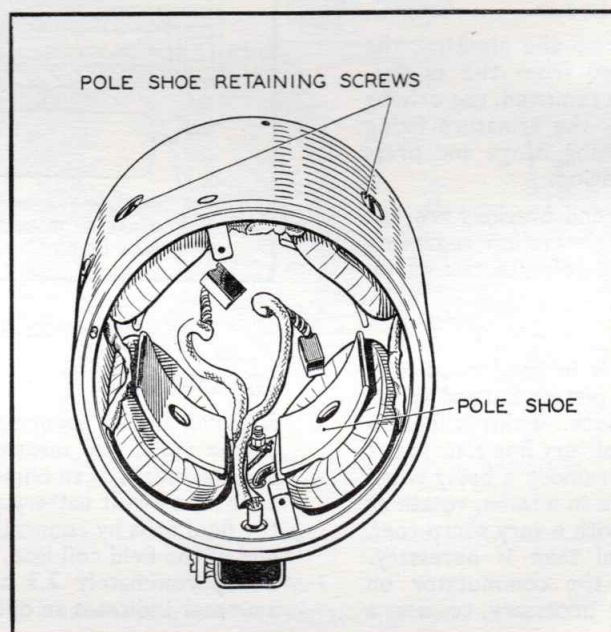

Fig 4
**Note:** When fitting a replacement coil set ensure that the coils are arranged in the yoke as shown in Fig. 4 below.